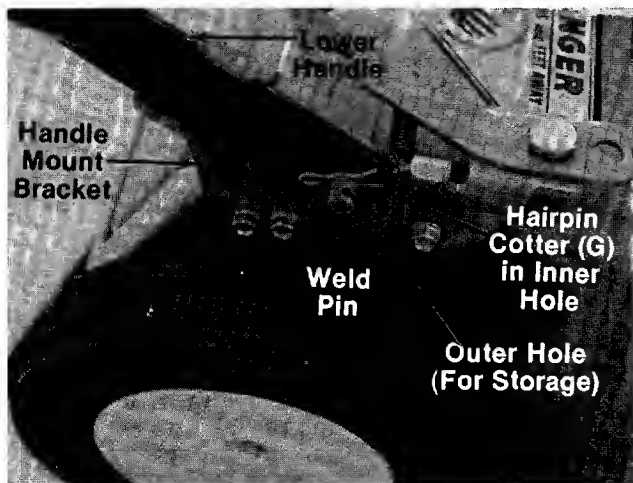

FIGURE 2.
- A (2) Curved Head Carriage Bolts
- B (2) Lock Washers 5/16" I.D.
- C (2) Hex Nuts 5/16-18 Thread
- D (2) Cable Ties
- E (1) Hex Bolt 1/4-20 x 1.50" Long
- F (1) Hex Lock Nut 1/4-20 Thread
- G (2) Hairpin Cotter
- H (1) Ferrule
- I (1) Ferrule Locking Ring
3. Fasten lower handle in position over weld pins in handle mount brackets on deck. Secure with hairpin cotters (G) in inner hole on weld pin. See figure 2.